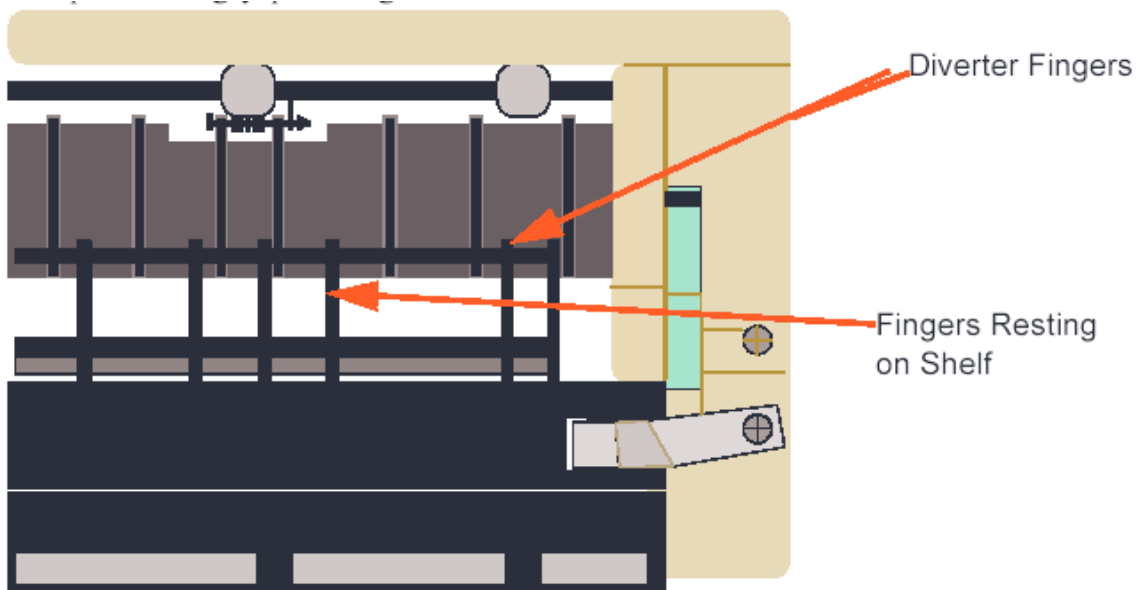

Figure 4. Rear View of the Printer
3. Place the diverter into the ribs as shown in Figure 4. The diverter should fit into place snugly pressing downward on the shelf.